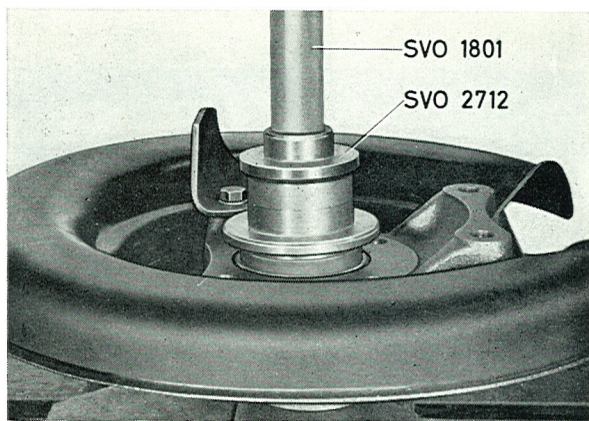

Fig. 4-82. Fitting the outer oil seal
10. Drive in the new oil seal in the brake shoe retainer (adjusting nut) with drift SVO 2712, see Fig. 4-82.